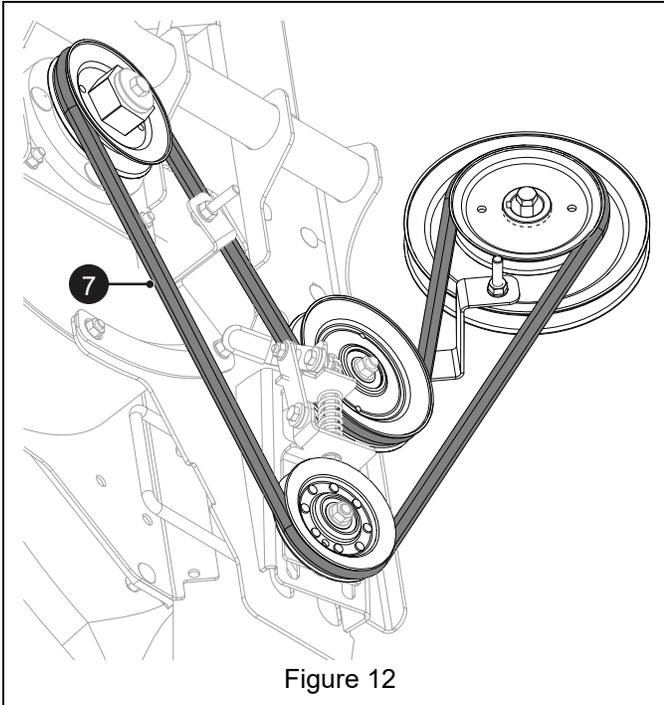

Figure 12
5. Install blower assembly on deck and install hex belt (item 7) on blower. Refer to bagger Operator's Manual for instructions. See Figure 12.